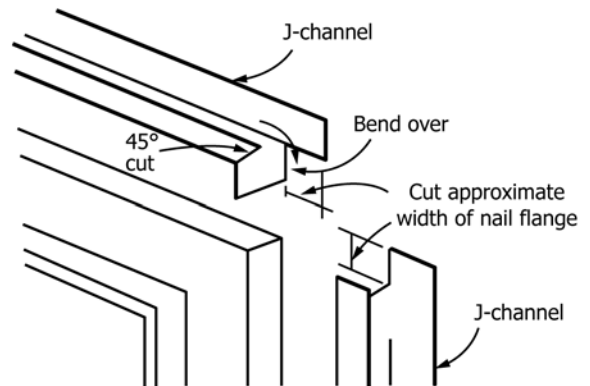

FIG. 11 Installation of Top and Side J-Channels Above Window or Door (note mitered face of top J-channel)
9.2.3.6 Install optional head flashing across the top of the window or door frame. Install the top J-channel with the mitered face over the face of the side J-channels. Bend the tabs in the top J-channel into the side J-channels. (See Fig. 11.)